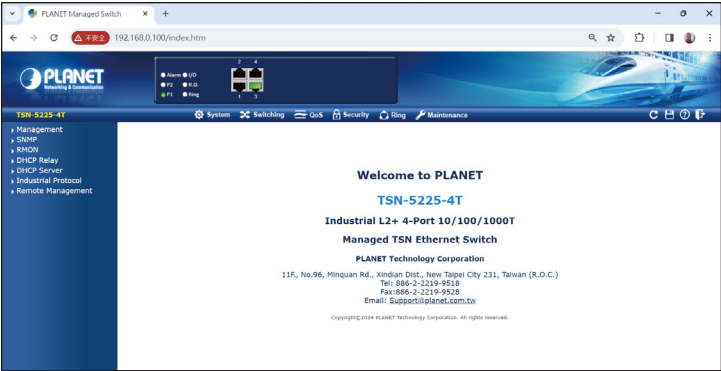

Figure 5-4: Web Main Screen of Industrial Managed TSN Device
3. Once the password change is complete, re-enter the web interface using your new password and the main screen appears as **Figure 5-4** shows.